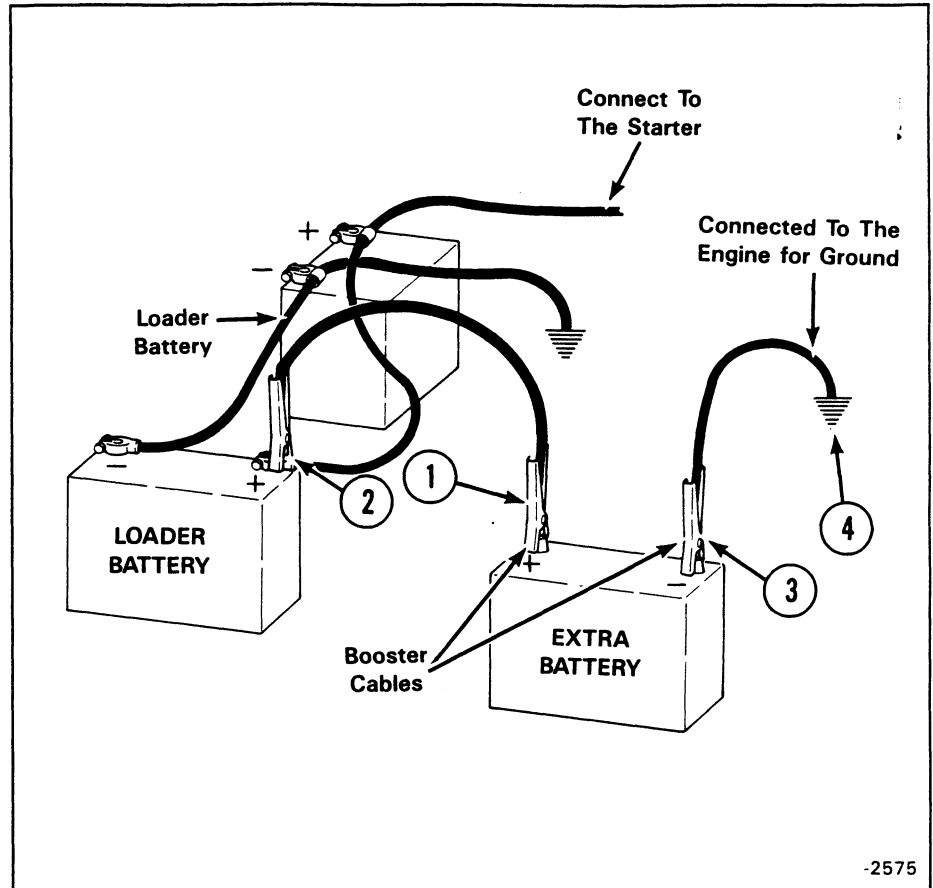

Fig. 1-25 Connecting the Extra Battery
(3) Connect the end of the first cable (Fig. 1-25, Item 1) to the positive terminal (+) of the booster battery. Connect the other end of the same cable (Fig. 1-25, Item 2) to the positive terminal (+) of the loader battery.
NOTE: Figure 1-25 does not show the batteries as they are located in the loader.
(4) Connect the end of the second cable (Fig. 1-25, Item 3) to the negative terminal (-) of the booster battery. Connect the other end of the second cable (Fig. 1-25, Item 4) to the engine. DO NOT connect the cable directly to the negative terminal (-) of the loader battery. This can cause a spark and destroy the battery and cause personal injury.
(5) Keep the cables away from moving parts.
(6) Start the engine.
(7) After the engine has started, remove the cable connected to the engine.
(8) Remove the cable from the loader battery post positive terminal (+).
(9) Install the rubber covers over the battery terminals.